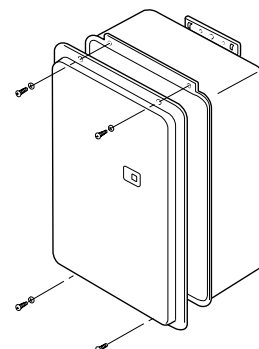

Fig. 1
2. Remove the appliance front cover (4 screws) as shown in Fig. 1.